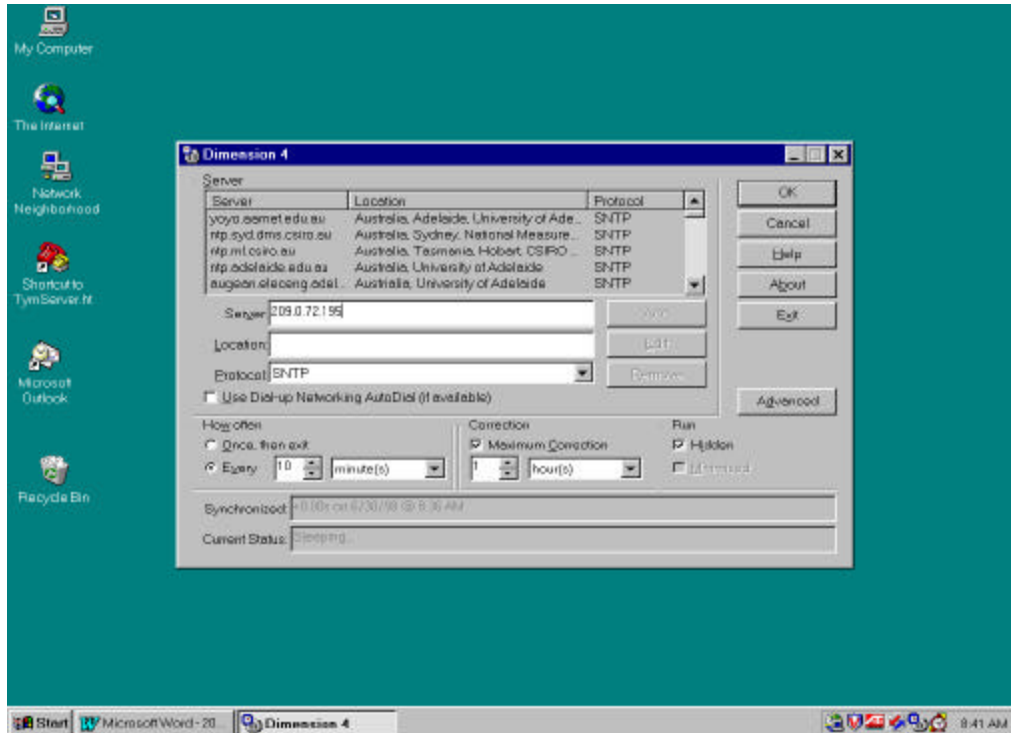

Figure 2-4 Configuration of Dimension 4
- Open 'Dimension 4' window by double clicking the 'd4.exe' file as shown in Figure 2-4.